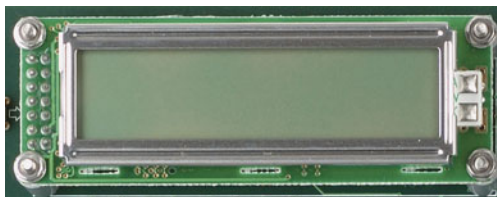

Figure 5-8. LCD Screen
6. Enter text into the **LCD Text** box in the **Board Status** tab. Now click the **Set to** button to update the on-board LCD screen with the entered information (Figure 5-8).